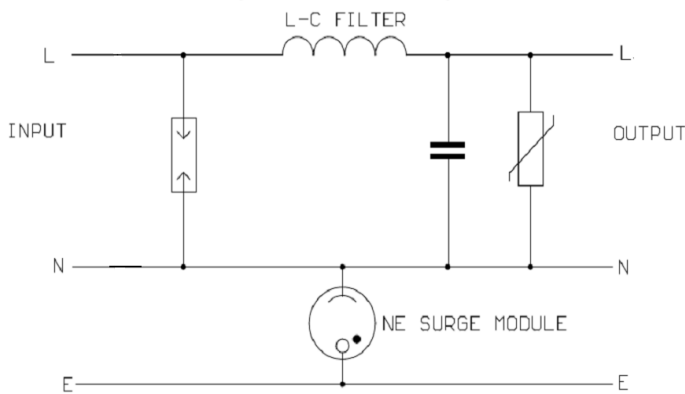
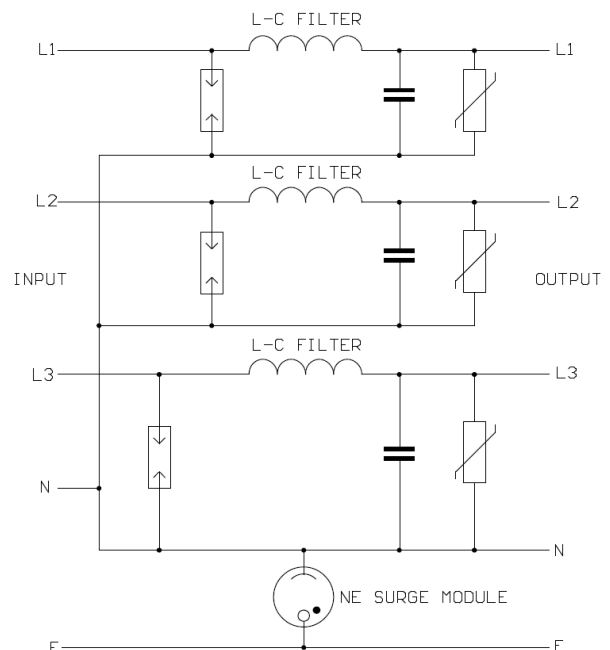

Figure 1. Schematic of 1Ø Surge Filter
Figure 2. Schematic of 3Ø Surge Filter
5. Connect the input and output power lines as illustrated in Figure 1 (for single phase units) and Figure 2 (for three phase units).